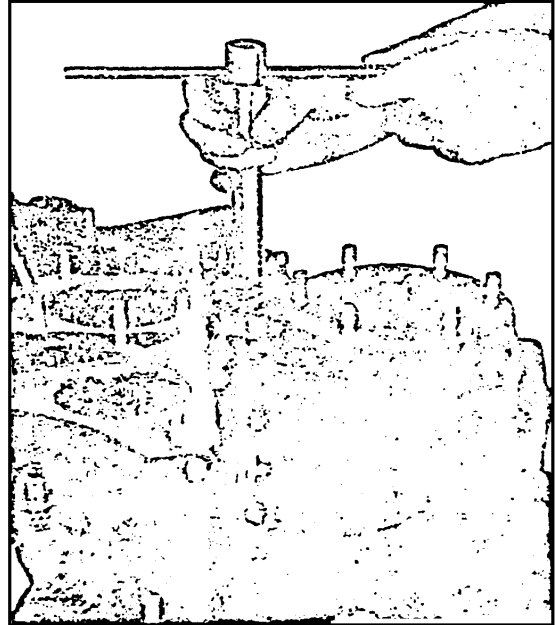

FIGURE 58—Removing Generator Idler Gear Shaft
**REAR SECTION** Place the rear section on the bench with the forward end facing downward. Remove all locking devices, nuts, and flat washers from the accessory drive attaching studs. Withdraw the parts in the following order: The fuel pump adapter or the three-way accessory drive, the tachometer drive, the tachometer and fuel pump drive adapter, the oil pump, the generator drive idler gear shaft, the generator drive shaft, and the generator drive gear. (Refer to figure 58.)